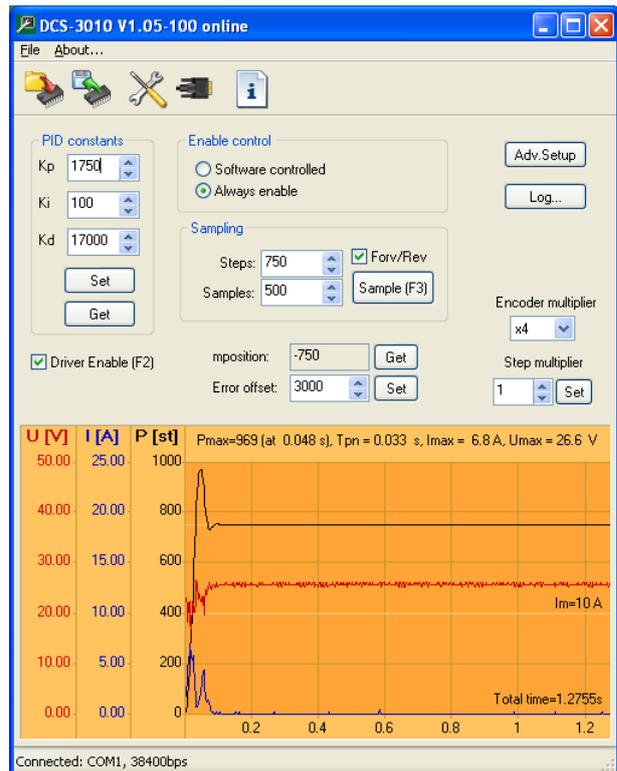

Figure 10.4
**STEP 4:** Final values of the PID constants and the response of the motor are shown in Figure 10.4.